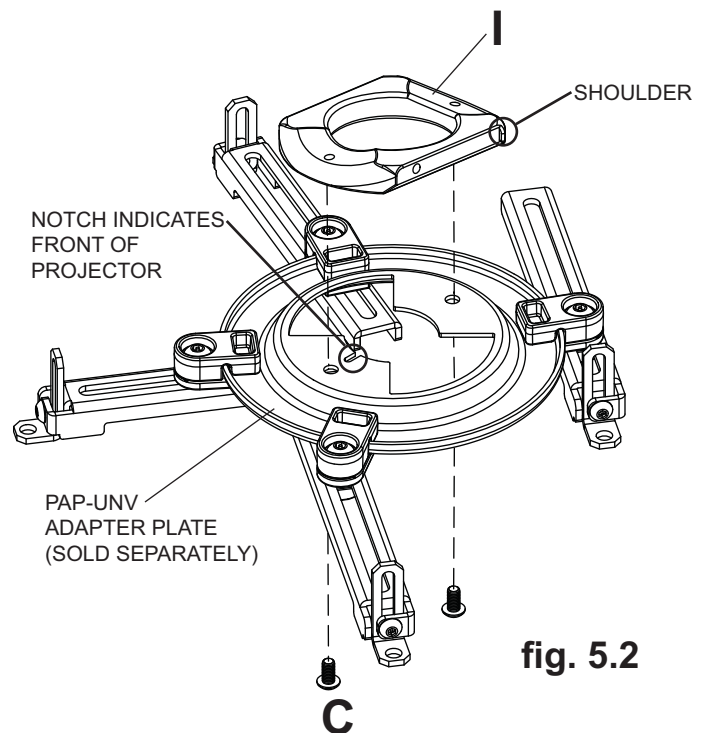

fig. 5.2
Align shoulder on connection block (I) opposite notch in adapter plate. Attach PAP-UNV adapter plate to connection block (I) using two #10-32 x 3/8" serrated washer head socket pin screws (C) as shown in figure 5.2.